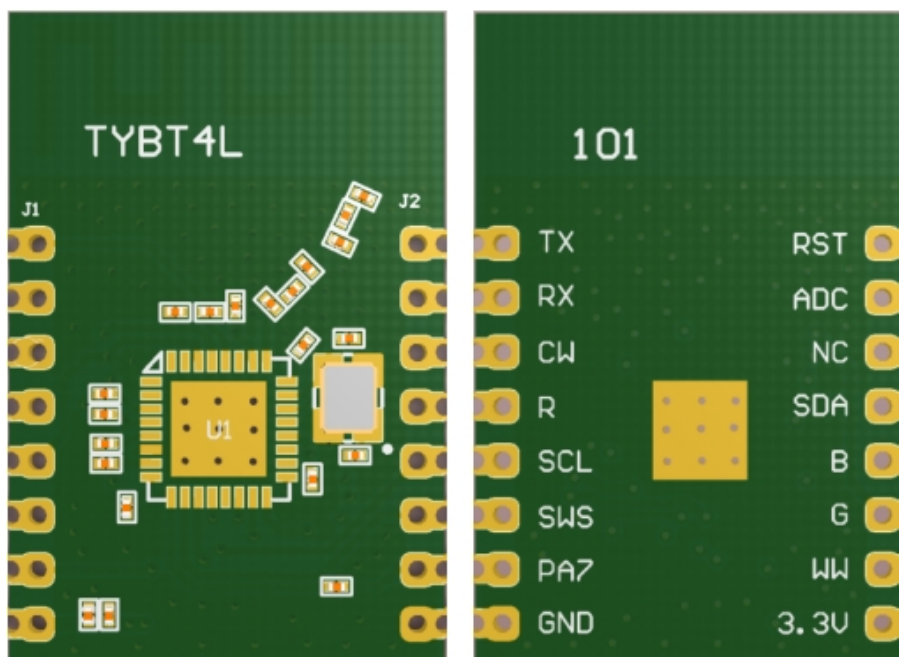

Figure 2.1 TYBT4L footprint
TYBT4L dimensions: 16 mm (W) x 24 mm (L) (see figure 2.1)